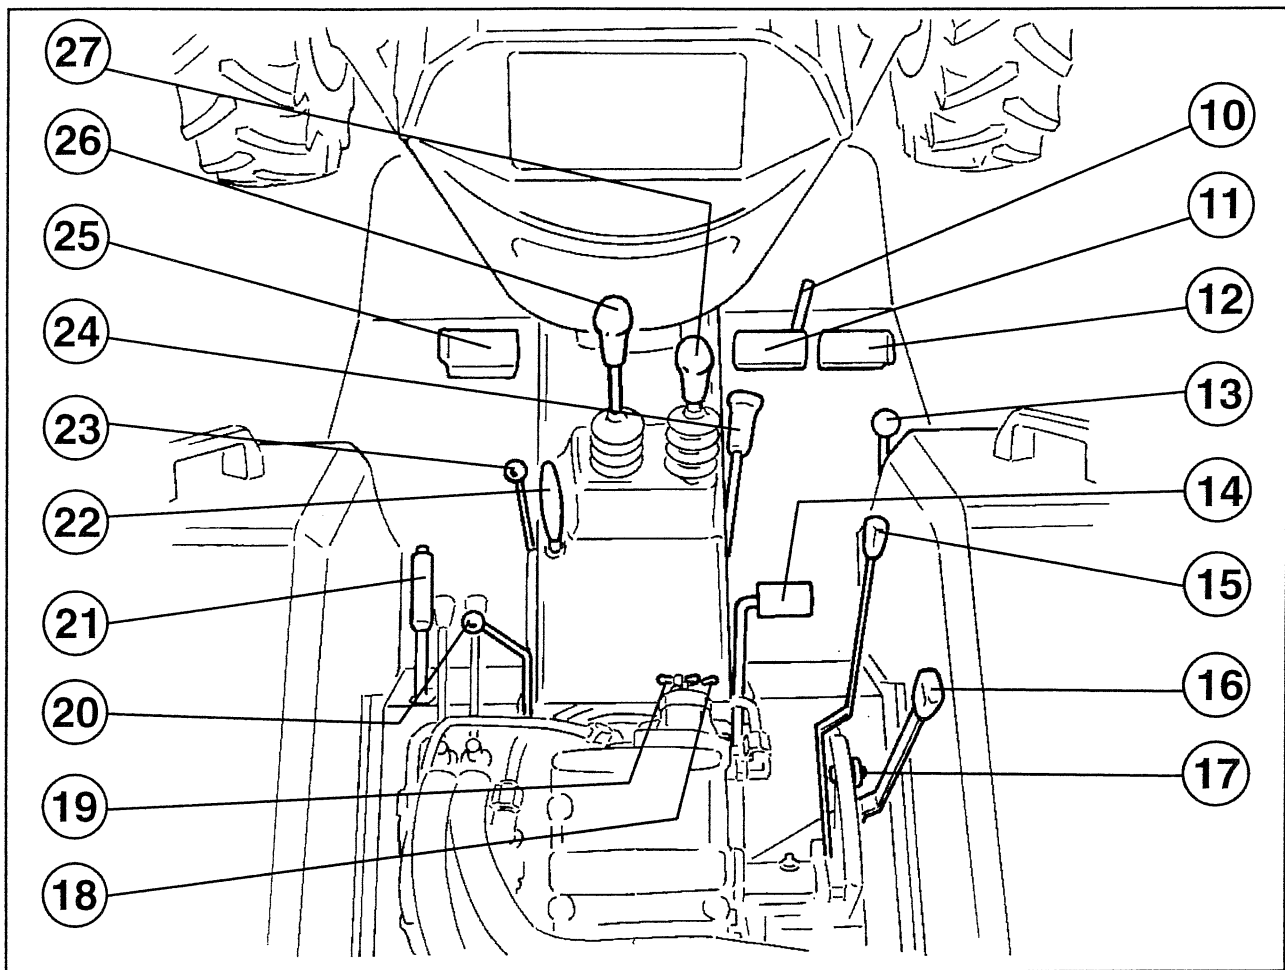

Fig. 3 Controls on chassis
Illuminates when the PTO clutch is disengaged using the lever 22 (Fig. 3).
13) **ACCELERATOR PEDAL** (Fig. 3)